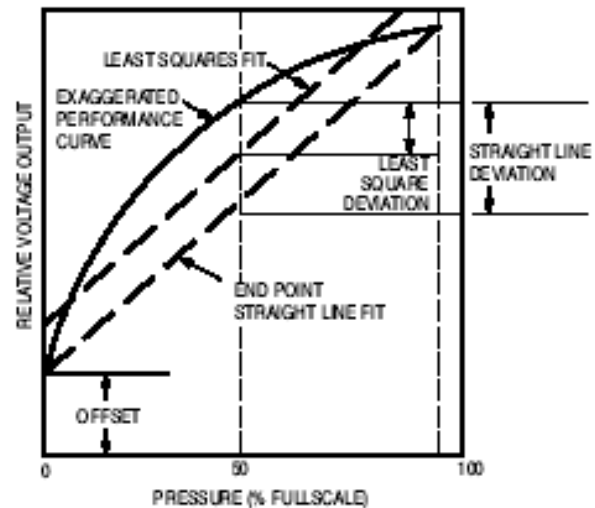

Figure 2. Linearity Specification Comparison
Linearity refers to how well a transducer's output follows the equation: $V_{out} = V_{off} + \text{sensitivity} \times P$ over the operating pressure range. There are two basic methods for calculating nonlinearity: (1) end point straight line fit (see Figure 2) or (2) a least squares best line fit. While a least squares fit gives the "best case" linearity error (lower numerical value), the calculations required are burdensome.